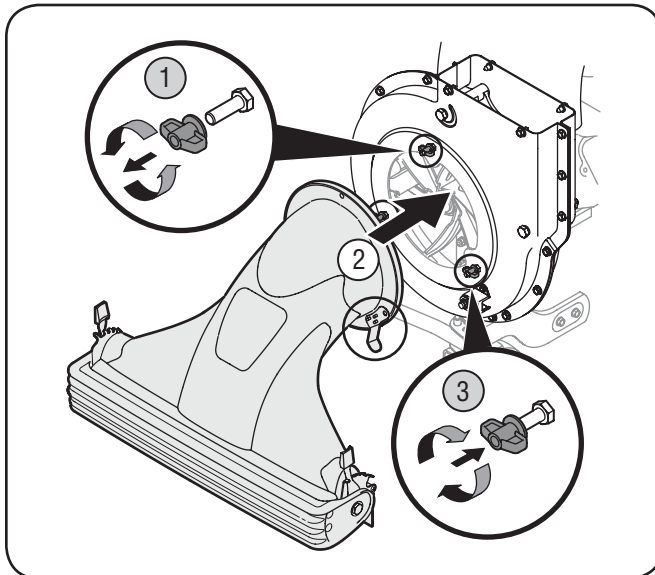

Figure 3-1
1. Remove three wing nuts from the front of the chipper shredder vacuum. See Fig. 3-1.
3. Secure with wing nuts just removed. See Fig. 3-1.
NOTE: The metal tab on the nozzle must depress the safety switch button attached to the front of the chipper shredder vacuum or engine will not start. See Fig. 3-1.